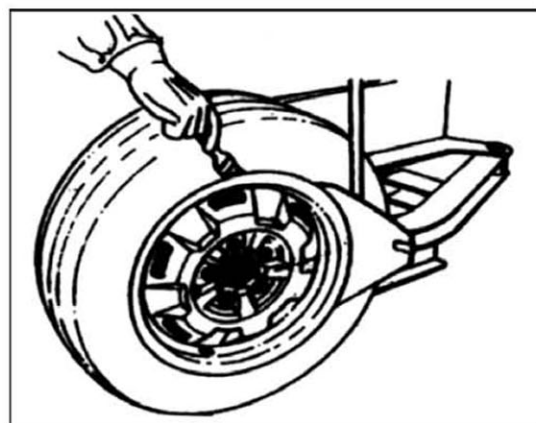
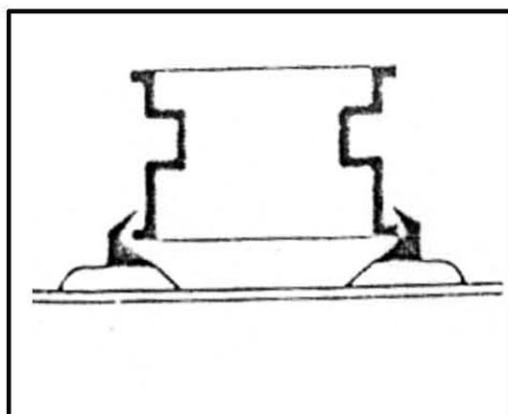
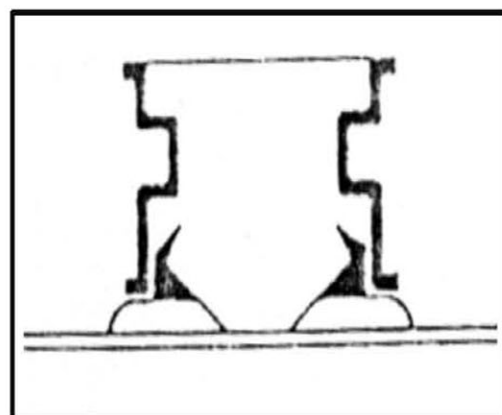

Fig19
Fig20
Fig21
4.1.2 Place the tire between then bead breaking blade and tire pressing runner clog. Position the bead breaking blade beside the lateral side of the tire (FIG19).Then step down the pedal to detach the rim from the tire(fig2-10). Repeat the same operation on the other parts of the tire to make the tire completely detached from the rim. To detach the lip smoothly, you can use the brush to spread the lubricant or thick soap liquid between the lip and rim. Place the wheel with the tire detached from the rim on the turntable and step the clamp pedal(fig2-9) to clamp the rim. You can select the outer clamp (fig20) and inner clamp (fig21) to clamp the wheel according to the different rim.